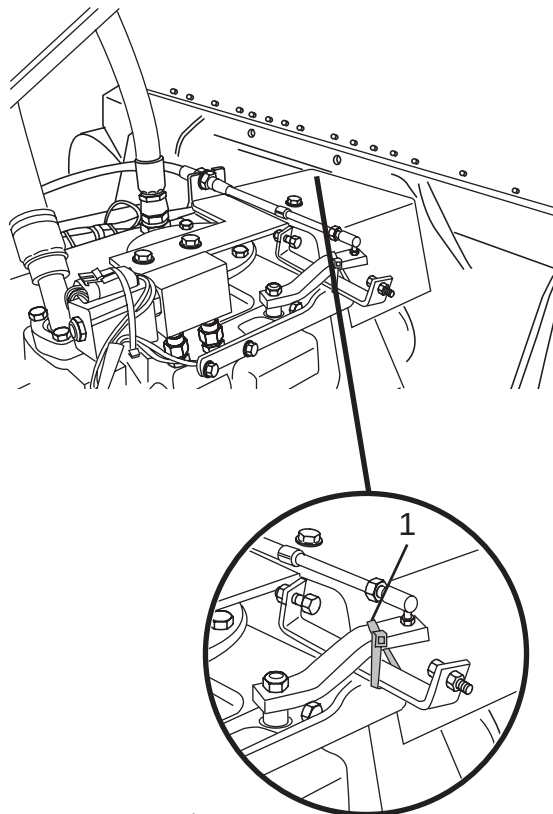

Figure 21
1. Remove the cable tie (Figure 21, Item 1) securing the hydraulic pump linkage in the TRANSPORT mode. The TRANSPORT mode constantly rotates the drum in the CHARGE direction at a speed of 1 to 1-1/2 rpm. This prevents the drum rollers from becoming damaged during transport.